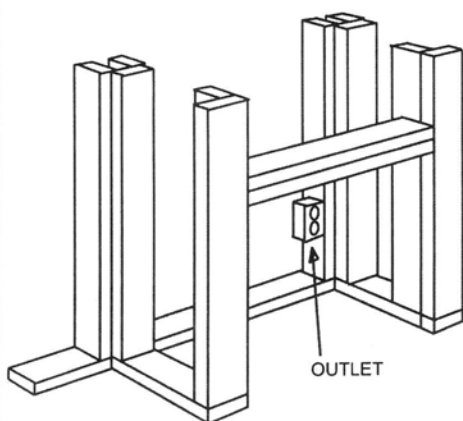

FIGURE 5
**Option #2** - A new outlet can be installed inside the new frame construction. (FIGURE 5)